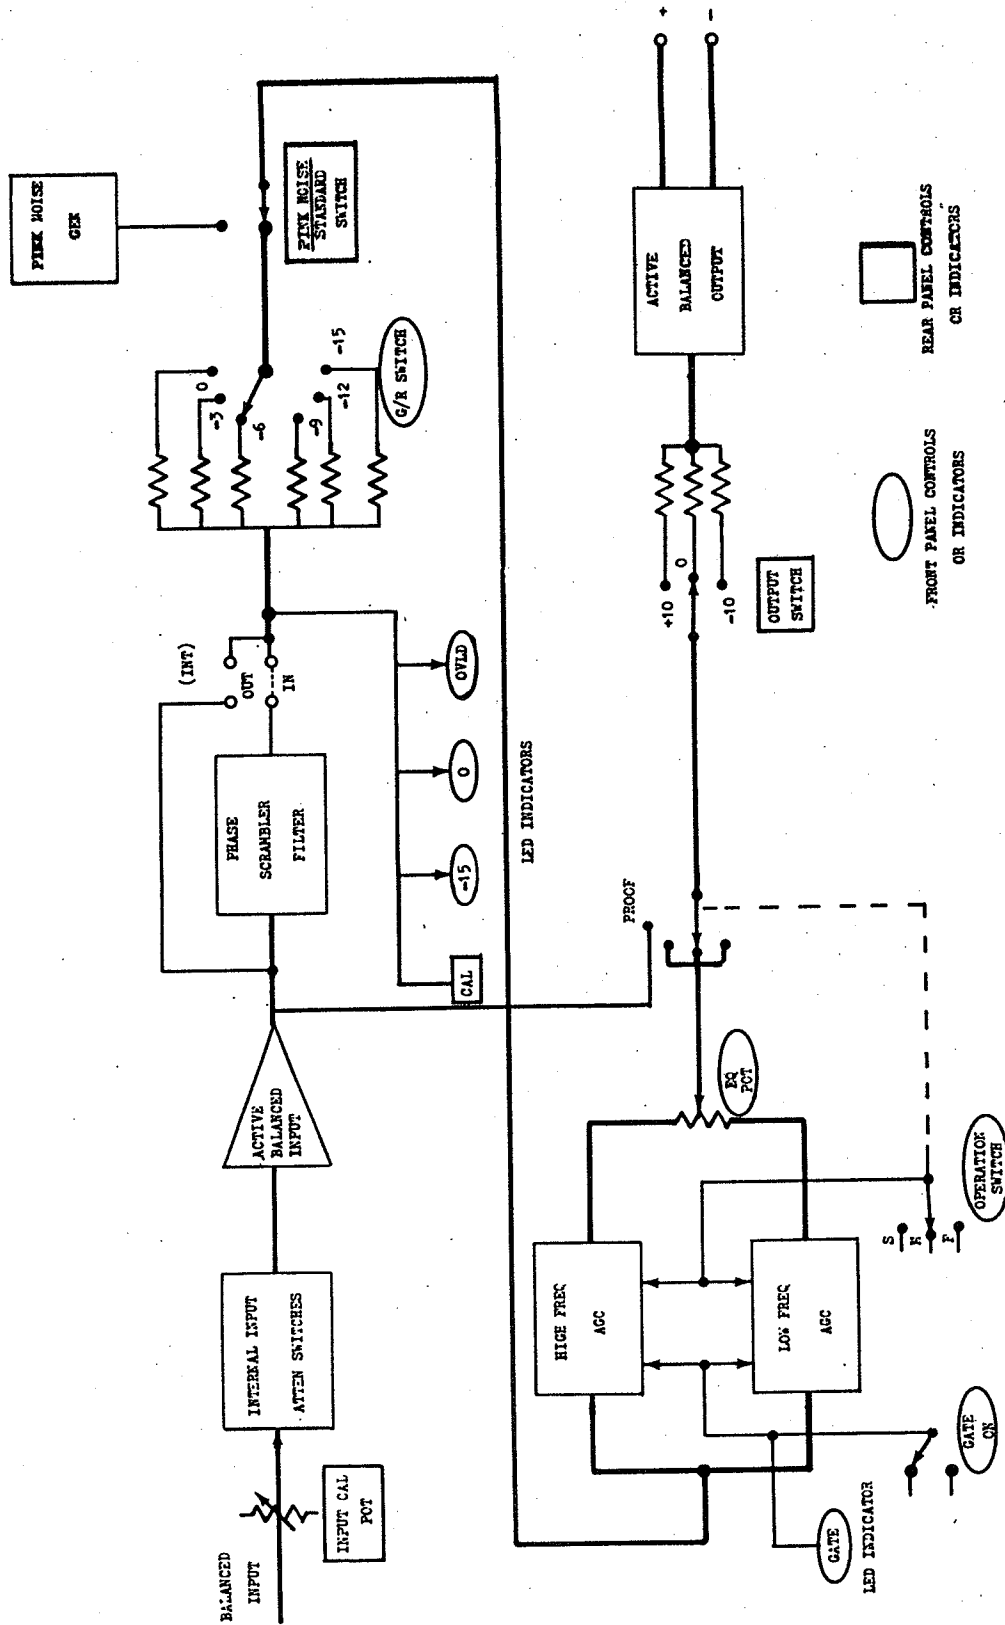

FIGURE 4.1 SIMPLIFIED BLOCK DIAGRAM
4.0 SIMPLIFIED THEORY OF OPERATION (Refer to Block Diagram Figure 4.1)